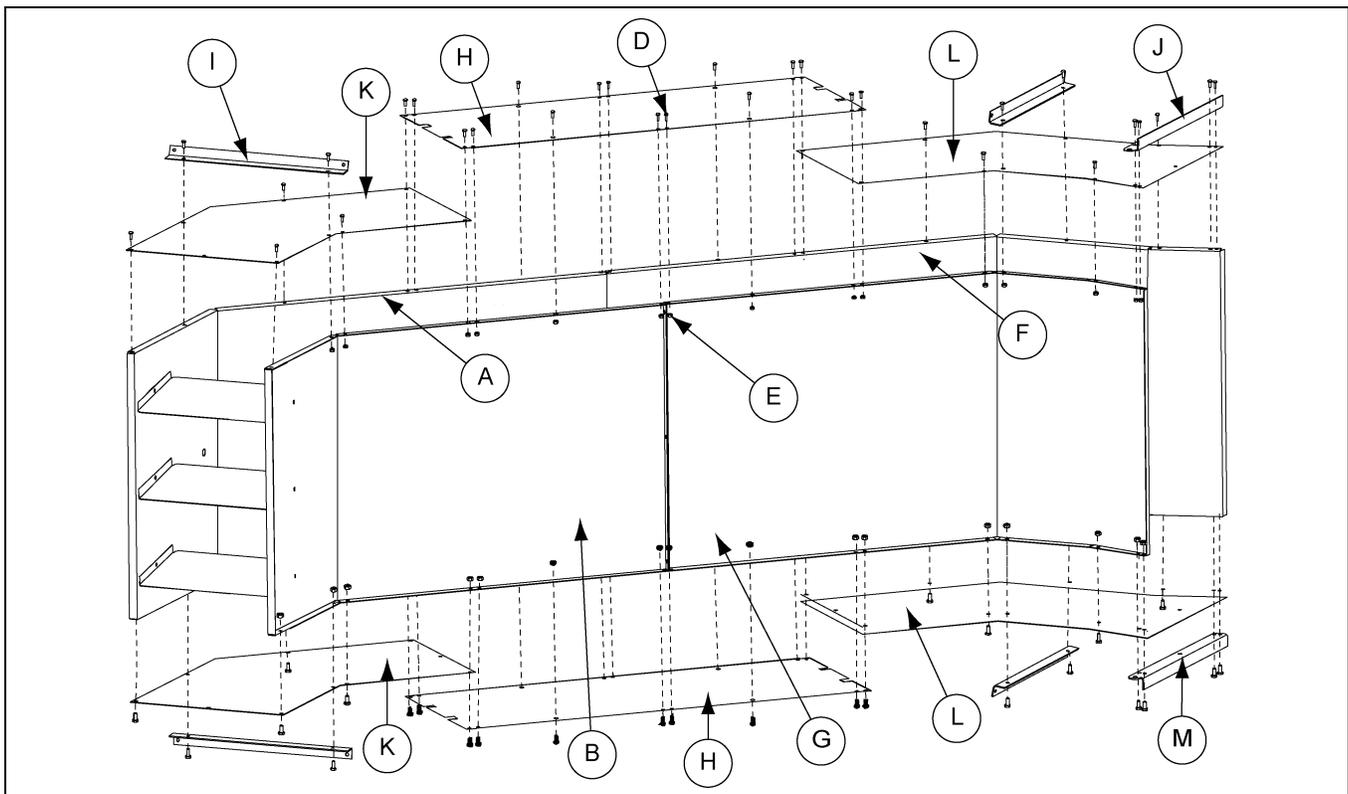

Figure 6C
3. Attach duct exit top/bottoms (K) to the tops and bottoms of the duct exit large side (A) and duct exit small side (B) using four (4) 5/16" x 3/4" flange bolts (D) and flange nuts (E). **Note the location of bolts for this step, some holes will not be used until future steps.** (See Figure 6C.)
4. Attach duct inlet top/bottoms (L) to the tops and bottoms of the duct inlet large side (F) and duct inlet small side (G) using four (4) 5/16" x 3/4" flange bolts (D) and flange nuts (E). **Note location of bolts for this step, some holes will not be used until future steps.** (See Figure 6C.)
5. Insert tabs on both duct middle top/bottoms (H) under duct inlet top and bottoms (L) and duct exit top and bottom (K) and attach to duct tops and sides using sixteen (16) 5/16" x 3/4" flange bolts (D) and flange nuts (E). (See Figure 6C.)
6. Attach four (4) duct support horizontals (I) to duct top/bottoms and duct sides using two (2) 5/16" x 3/4" flange bolts (D) and flange nuts (E) per each horizontal support. (See Figure 6C.)
7. Attach pivot angle top (J) and pivot angle bottom (M) to the end of the inlet sides using four (4) 5/16" x 3/4" flange bolts (D) and flange nuts (E) per each angle. (See Figure 6C.)